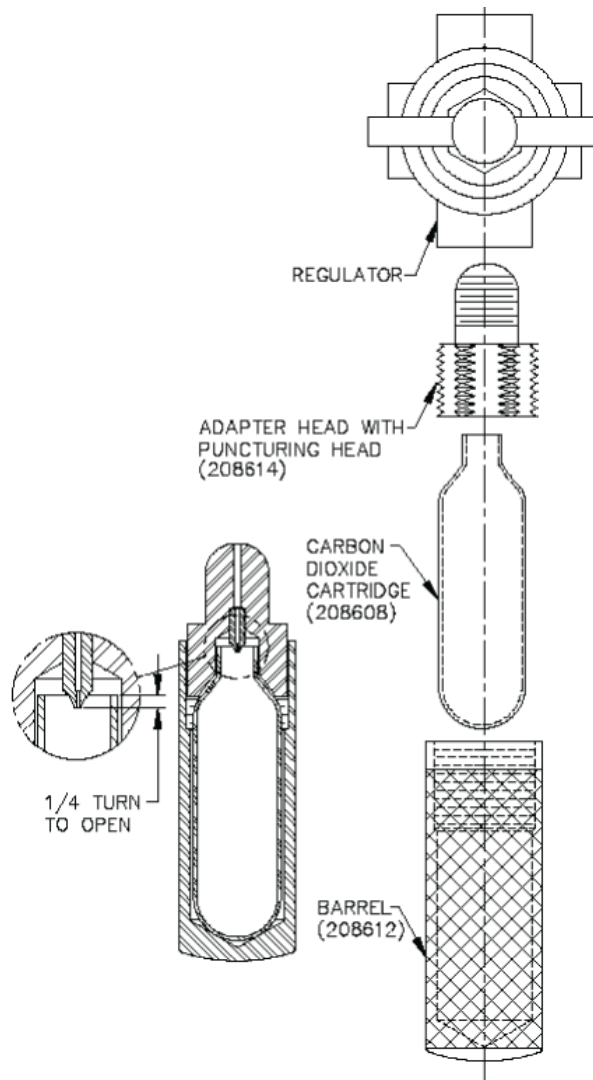

Figure 4-1 CO₂ Cartridge Holder Assembly
Follow this procedure to pressurize the filter press with a CO₂ cartridge. See Figure 4-1 and 10-5. Carbon dioxide cartridges are not included.
3. Turn the holder again, approximately a 1/4 turn. The puncture pin, shown in Figure 4-1, seals when the cartridge sits securely in the holder.